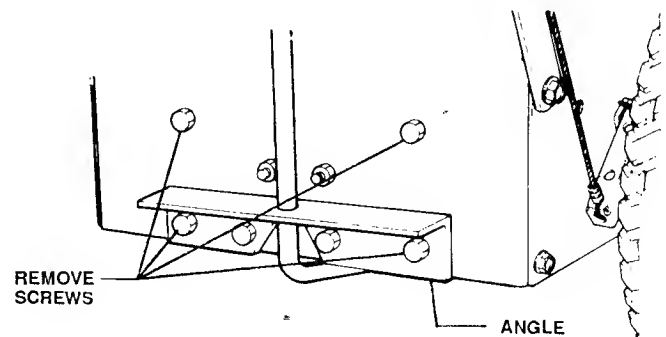

FIGURE 17
4. Remove the 4 screws from the back of the mower as shown in Figure 17. This action allows the Hex Shaft Assembly to drop down, thus providing clearance for belt removal and replacement.